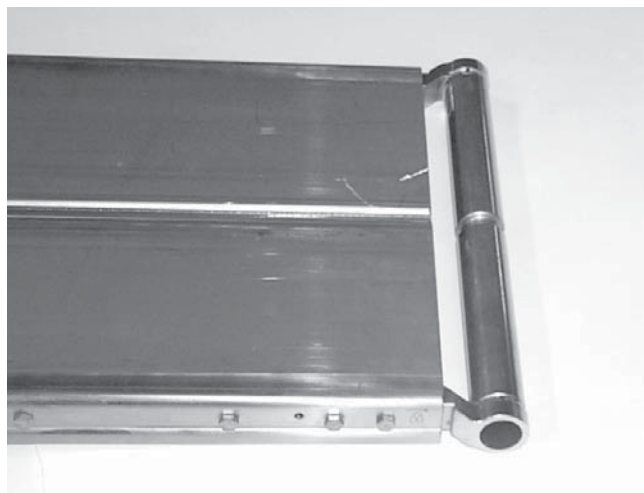

Figure 6
2. Compress tensioning end (Figure 6). Refer to steps 4 and 5 under the “Belt Removal for Conveyor Without Gearmotor Mounting Package or Stands” on page 11.